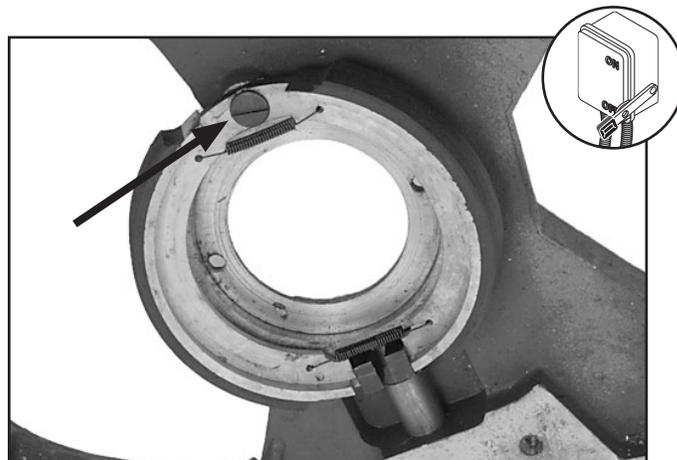

Figure 87. Brake shoe retaining screw.
3. Flip the pulley assembly over, and remove the retaining screw from the brake shoes shown in **Figure 87**.
5. Spread the brake so it fits around the cam blocks, as shown in **Figure 87**.